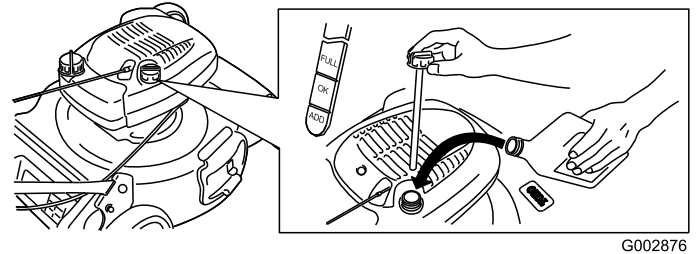

Figure 6
1. Remove the dipstick (Figure 6).
2. Slowly pour oil into the oil fill tube until the oil level reaches the **Full** line on the dipstick (Figure 6). **Do not overfill.** (Max. fill: 20 oz., type: SAE 30W detergent oil with an API service classification of SF, SG, SH, SJ, SL, or higher.)